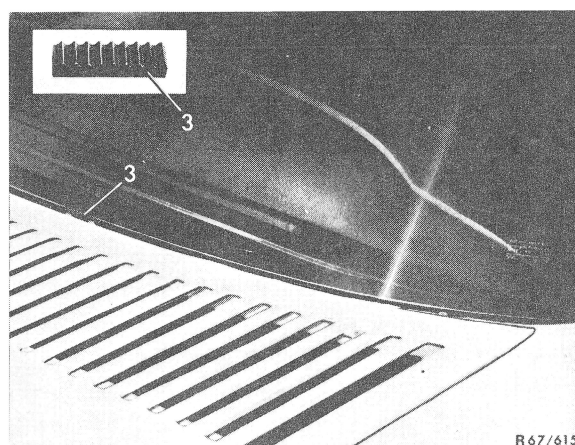

Fig. 4
**16** Place two spacers (3) (4 mm high) from repair kit as shown in Fig. 4 each on second clip from outside for bottom trimstrip attachment.